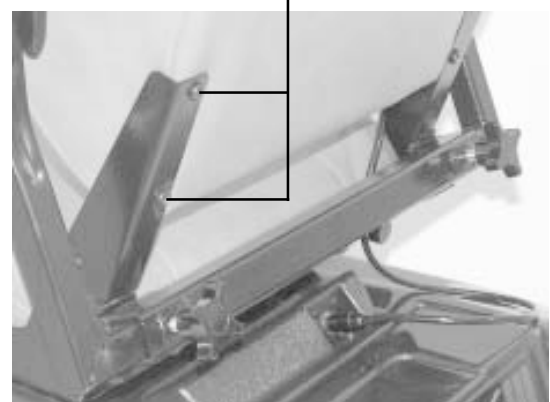

Figure 11. Seatback Assembly
1. Line up the hinges with the holes in the seatback. See figure 11.